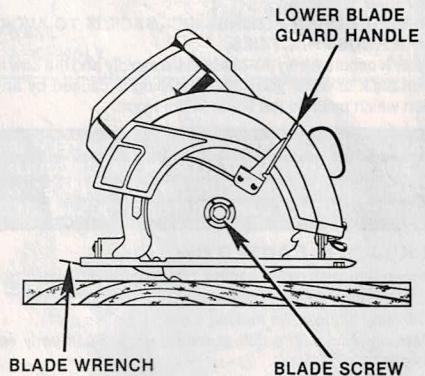

Fig. 3
2. Place your saw on a piece of scrap wood as shown in figure 3 and remove blade screw. NOTE: With blade teeth embedded in the wood, turn blade screw counterclockwise to remove.